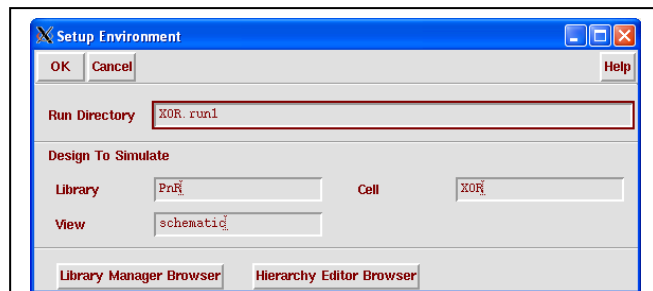

Fig. 3: Setup Environment
- In the “Setup Environment” window that opens (Fig. 3), enter **XOR.run1** in the **Run Directory** text box. All other default values are correct. Click **OK** to create the XOR.run1 directory and open the “Virtuoso Schematic Composer Analysis Environment for Verilog-XL Integration” window (Fig. 4).